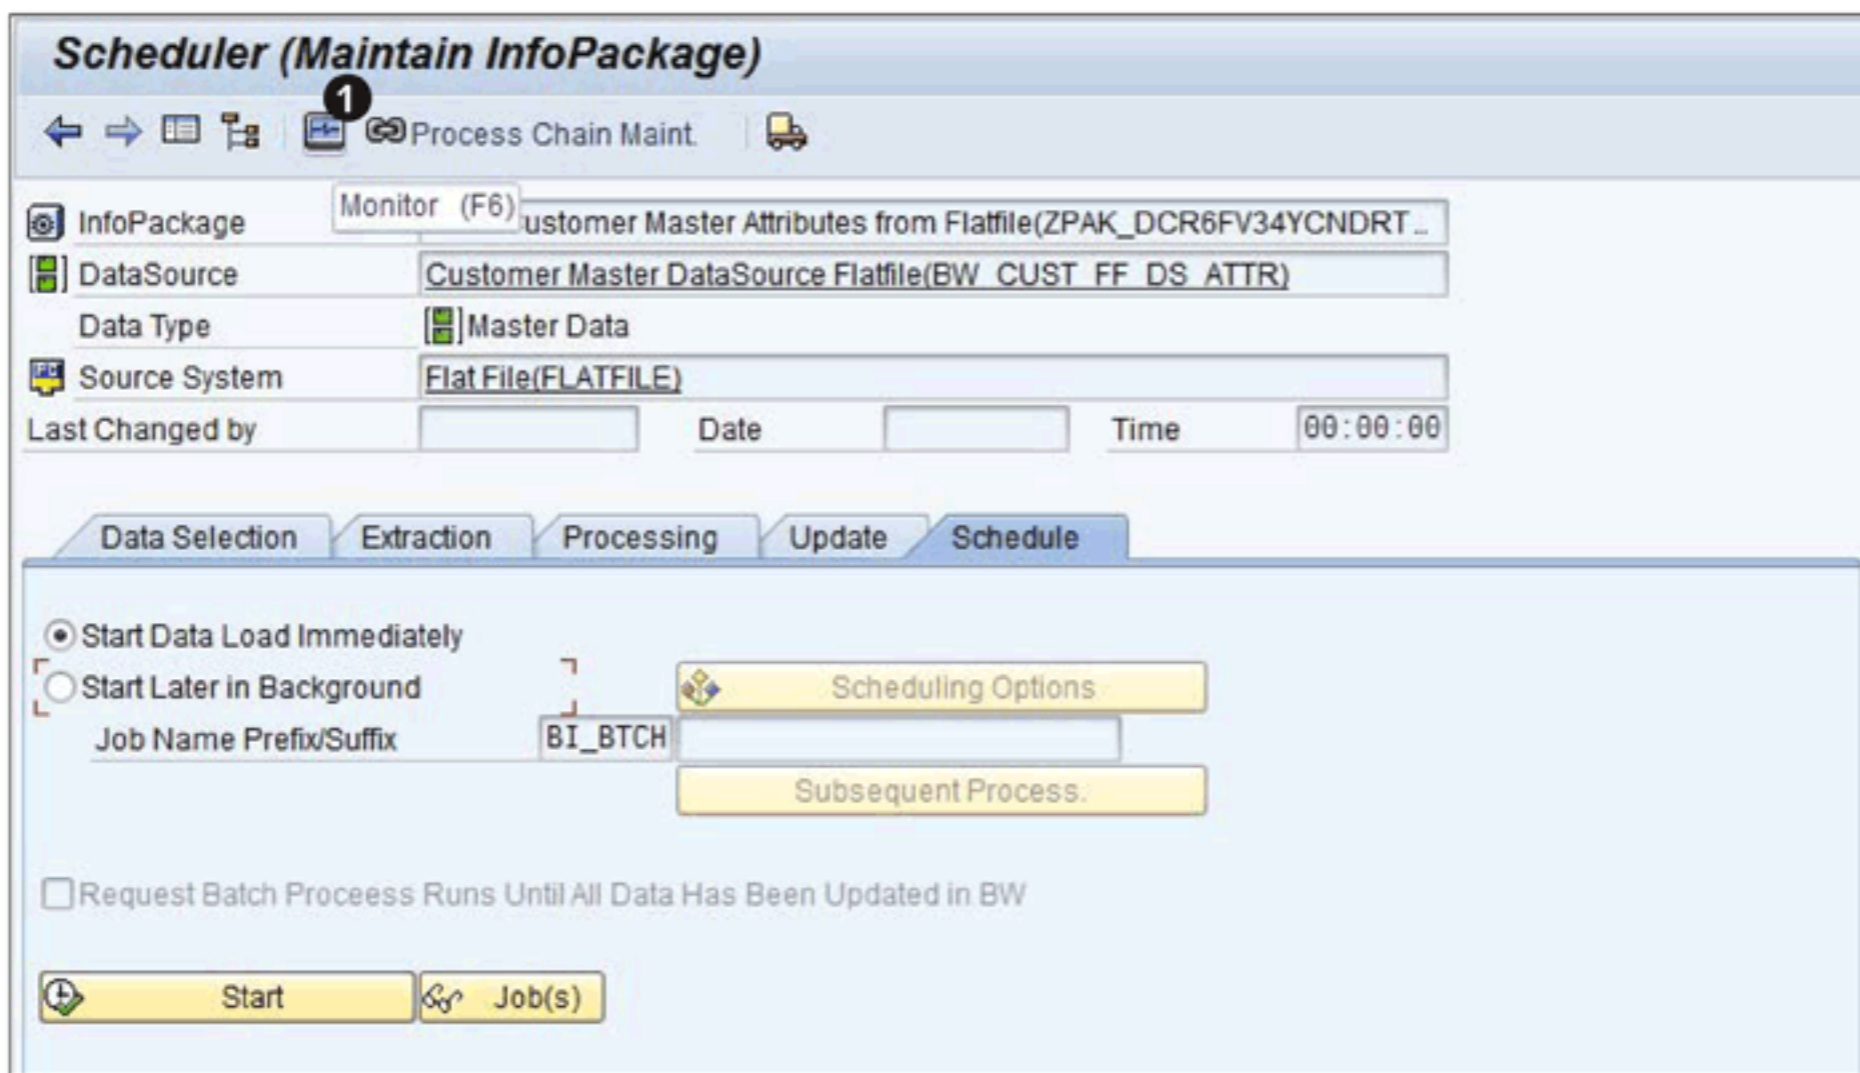

Figure 7.37 Monitor
After the data extraction begins, you can click on the MONITOR icon (📺) shown in ❶ of Figure 7.37 to check the status of the data extraction.